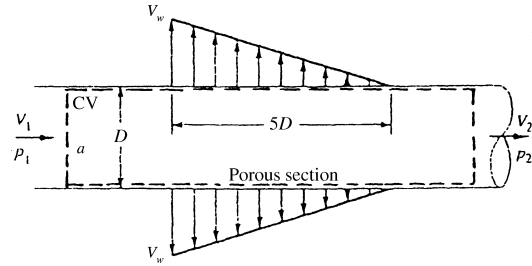

Fig. P3.87
3.87 Figure P3.87 simulates a *manifold* flow, with fluid removed from a porous wall or perforated section of pipe. Assume incompressible flow with negligible wall friction and small suction $V_w \ll V_1$. If (p_1, V_1, V_w, ρ, D) are known, derive expressions for (a) V_2 and (b) p_2 .